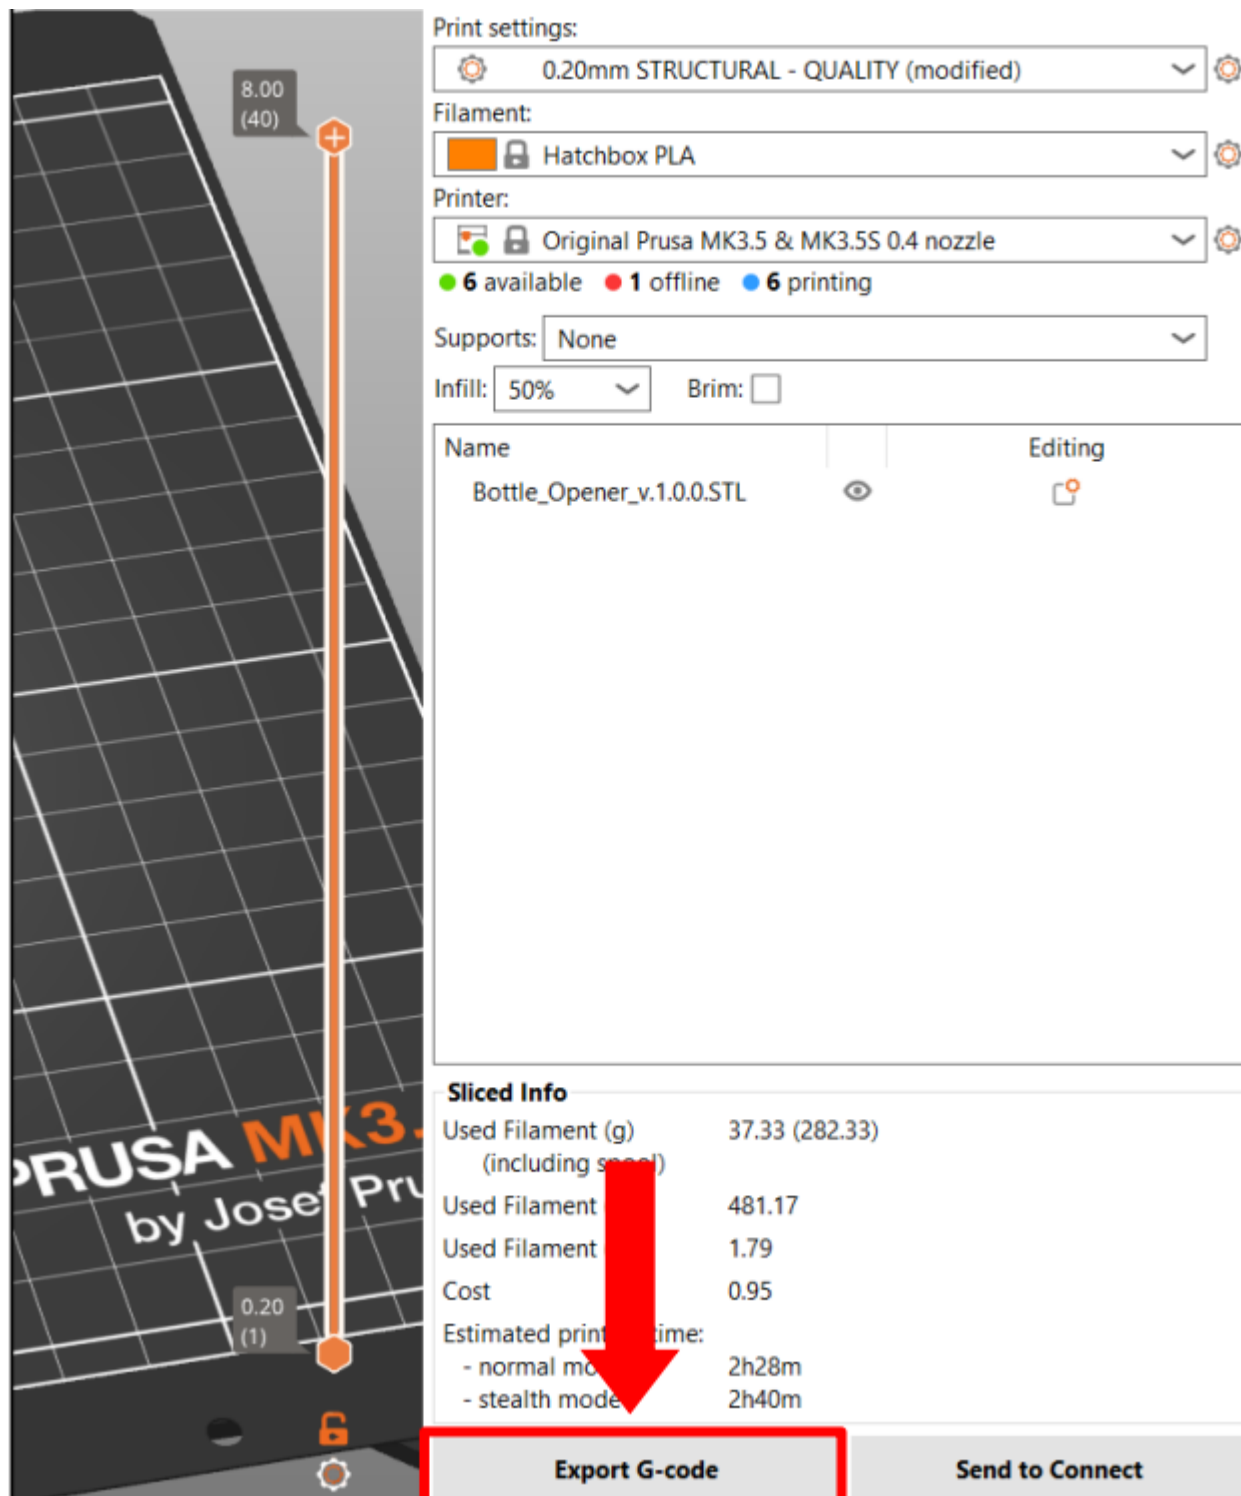

Figure 5
9.) Once the slicing is finished, click “Export G-code” (see Figure 5) and save the G-code to a flash drive